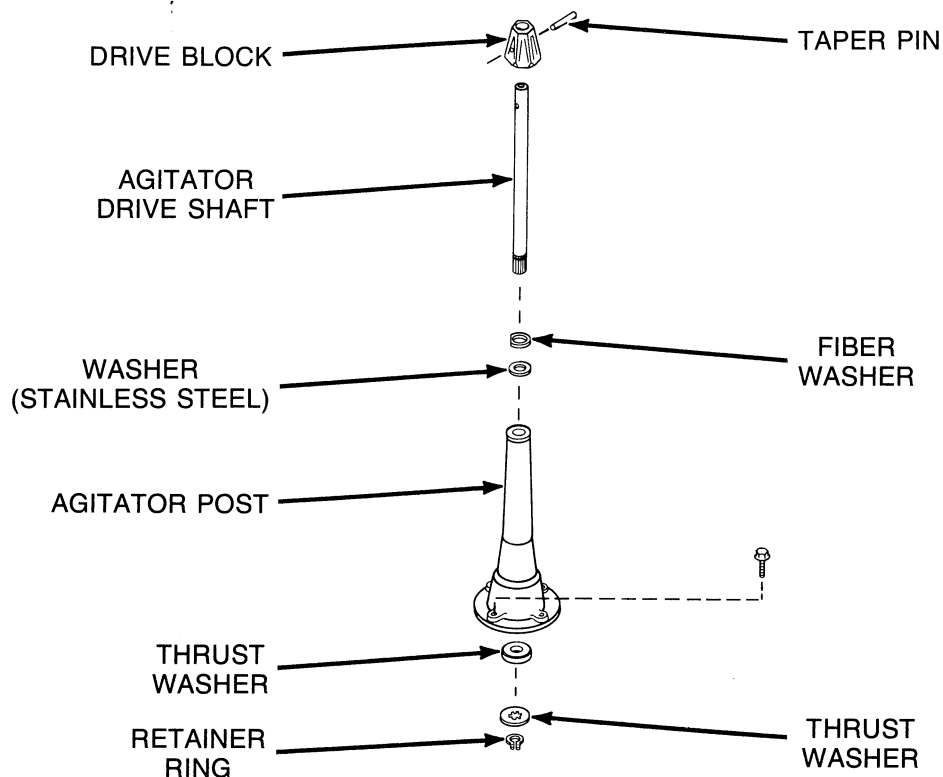

Figure 13
12. AGITATOR DRIVE SHAFT (Refer to Figure 13)